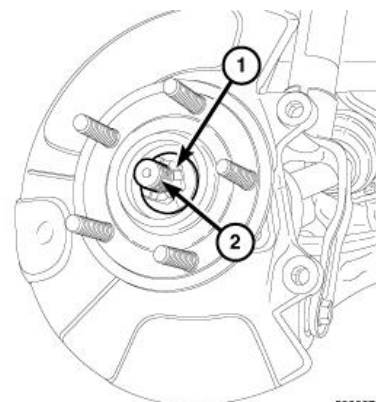

Figure 17 – Hub/Bearing Nut
35. Remove halfshaft hub/bearing nut (1) and **DISCARD** (Figure 17).